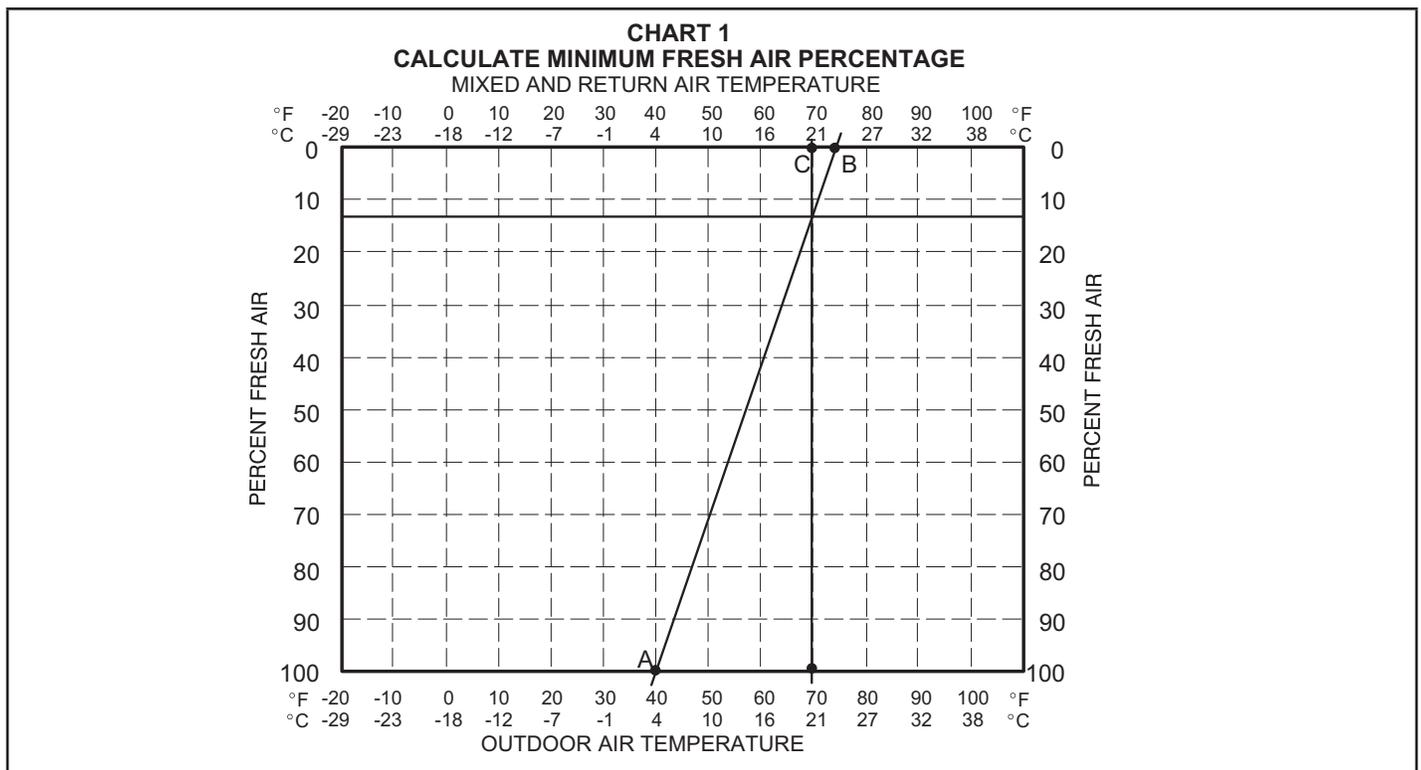

FIGURE 23
- 4 - Measure return air temperature. Mark that point on the top line of chart 1 (FIGURE 23) and label the point "B" (74F, 23C shown).